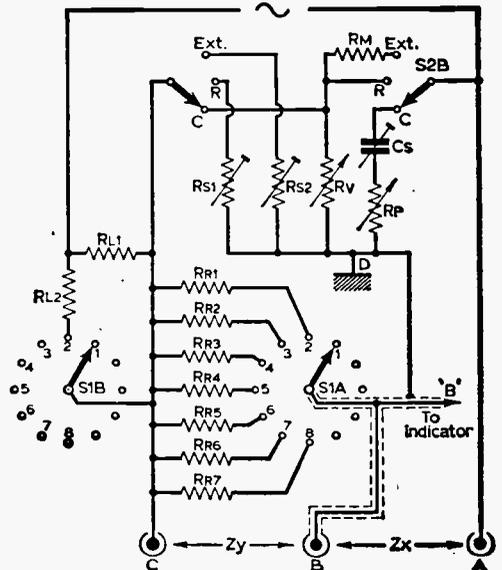

Fig. 3—Circuit of the bridge
It is obviously convenient if all three forms can be contained in a single piece of apparatus, and the circuit of Fig. 3 shows how this may be done with a minimum of easily obtainable switches. S1A and B consists of two single pole 12 way wafers, limited in this design to 8 positions. Wafer A selects the range, with a spare position for form (3) while wafer B reduces the limiting resistance in the bridge supply on the lowest R (and highest C) range. This operation is necessary because the supply voltage to the bridge must be limited to prevent damage to both standards and to components under test. On the higher ranges, with standards of megohm value, the effect of the limiting resistor is negligible and most of the voltage appears across the bridge. As the ranges decrease, a greater proportion of the voltage appears across the limiting resistor, and on the lowest range, unless reduced, it could starve the bridge of practically all its supply. The two wafers of S1 are spaced about 1½ inches apart, with wafer A closest to the switch body, and the spare tags on wafer B serve to support the common ends of the range resistors.